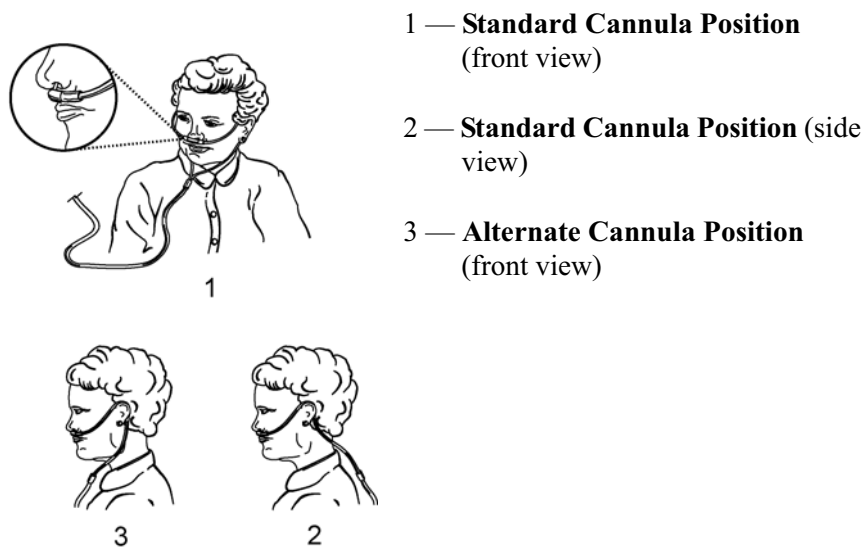

Figure 14: Adjusting the Cannula
11. Adjust the cannula to comfortably fit your face (Figure 14). When the cannula is in place, turn the *Flow Control* to the prescribed rate.